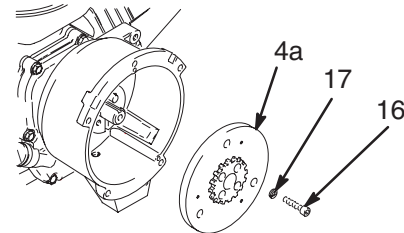

Fig. 9 9028A
8. Fig.9. Use an impact wrench or wedge something between armature (4a) and clutch housing to hold engine shaft during removal.
9. Remove four screws (16) and lockwashers (17).